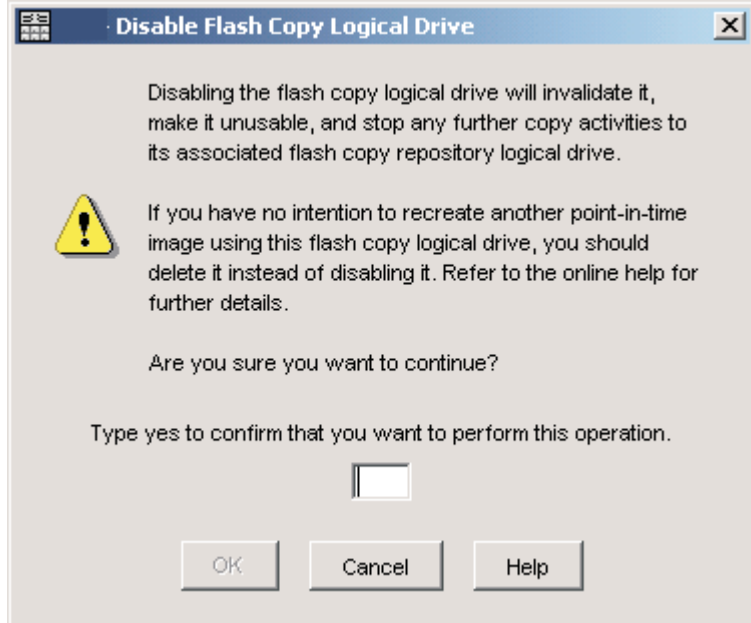

Figure 18. Disable FlashCopy confirmation window
2. The Disable FlashCopy Logical Drive confirmation window opens, as shown in Figure 18 on page 44. In this window, type Yes and click **OK** to begin the disable operation.